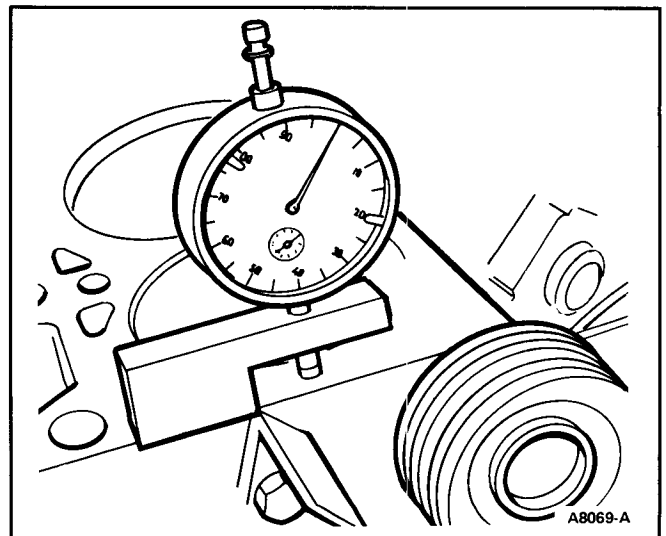

FIG. 28 Zeroing Dial Indicator
- c. Zero dial indicator with tip on crankcase (Fig. 28).